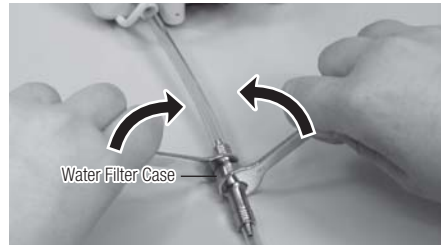

Fig. 25
- 1) Close the water valve of the dental unit to which PRESTO AQUA II is connected. Mount two (5x8) spanner wrenches as shown in Fig.25, and turn in the direction shown. When the water tube becomes twisted as a result of this, relieve the twisting by turning it, as its end on the control unit side is free to turn.